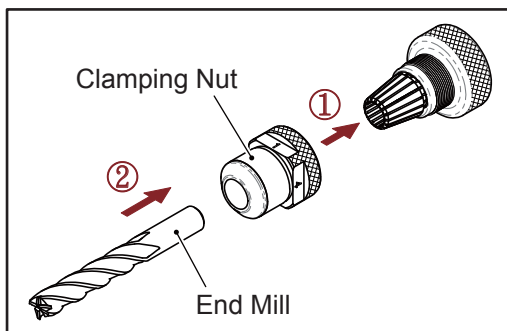
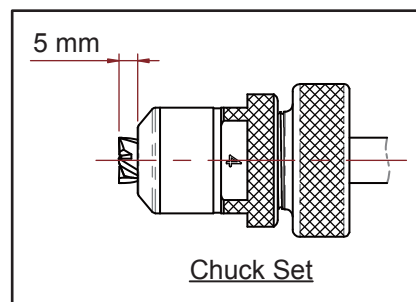

Fig. 5-2
Fig. 5-3
3. Screw in a little bit by clamping nut (Fig. 5-2 Step ①), then insert the End mill shank into the clamping nut (Fig. 5-2 Step ②) until the End mill is out of the clamping nut about 5 mm. (Fig. 5-3)